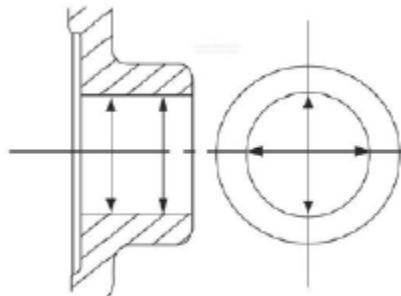

Figure 96.
5. Subtract the piston measurement from the greatest measurement acquired during cylinder inspection to obtain piston-to-cylinder clearance. Record the Measurement. Measure the diameter of the piston pin bore on both sides of the piston (Figure 96). See the *Mechanical Specifications Chart*. Record the measurements.